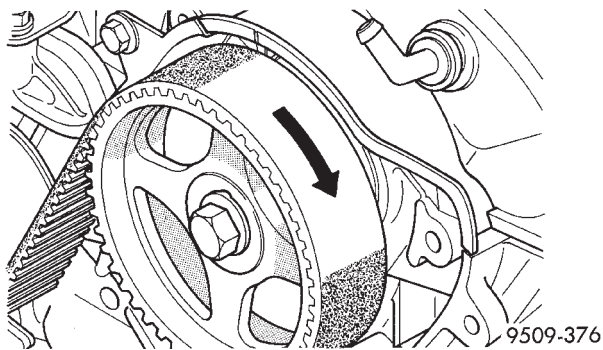

Fig. 61 Mark Direction of Timing Belt
- (1) Remove timing belt covers. Refer to procedure in this section.
- (2) Mark timing belt running direction for installation (Fig. 61).